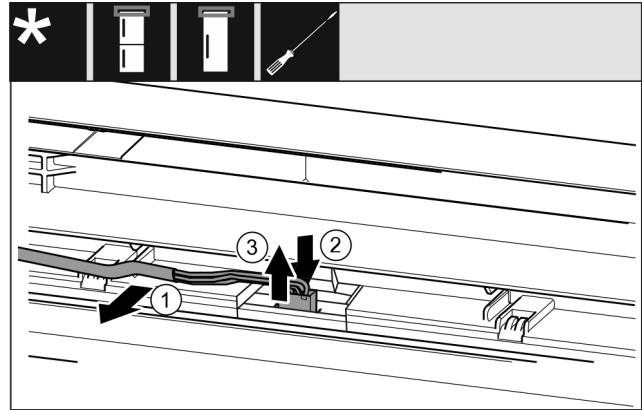

Fig. 21 Fridge/freezer combinations / freezers / refrigerators
- ▶ Release the cable Fig. 21 (1) from the guide in the door carefully.*
- ▶ Push the tab Fig. 21 (2) behind the plug backwards.*
- ▶ Pull the plug Fig. 21 (3) out upwards carefully.*